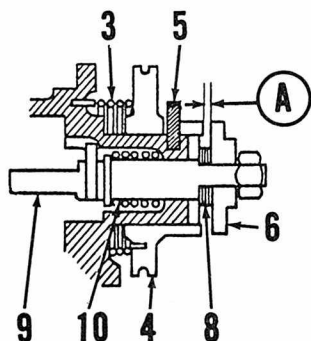

Fig. Y5-7—Clearance (A) should be 0.25-0.35MM and is adjusted by varying shims (8).
Check the minimum plunger stroke by turning starter plate (16—Fig. Y5-5) until clearance (A—Fig. Y5-7) between pulley and adjusting plate is at minimum. Clearance (A) should be 0.25-0.35MM (0.0098-0.0138 inch.) If clearance is incorrect, add or deduct shims (8).